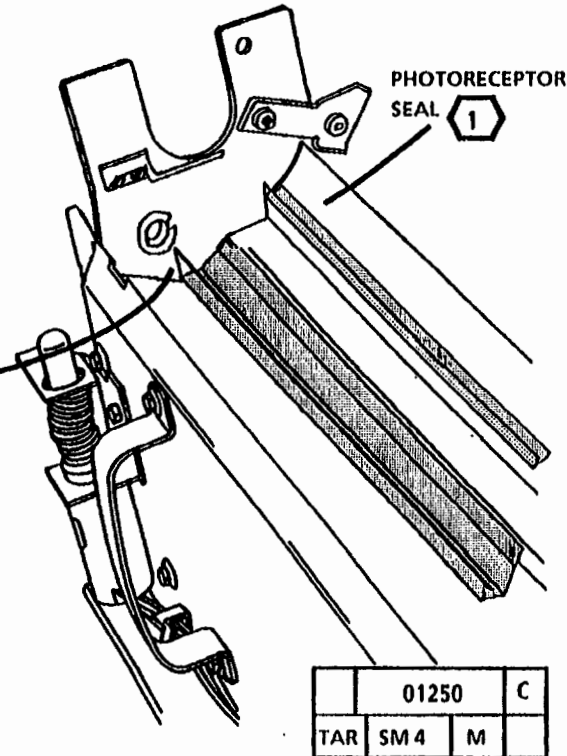

Figure 1. Remove the Cartridge Drive Plate
3. (Figure 1): Remove the Contamination Seal.